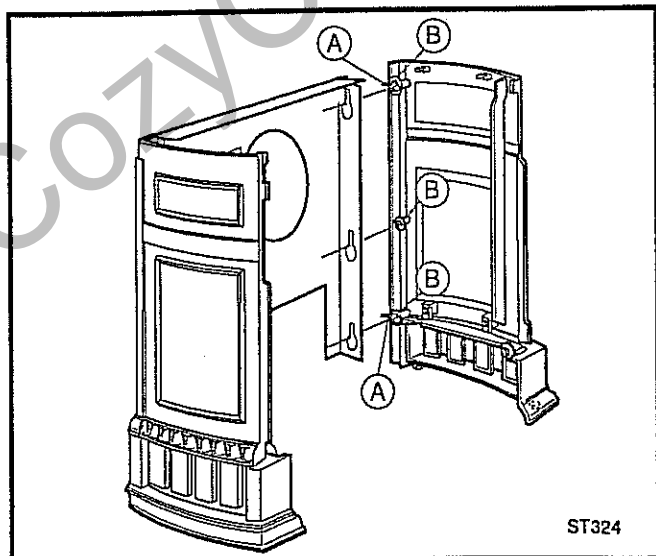
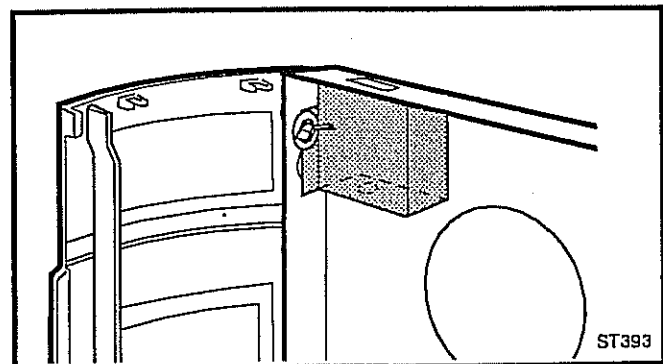

Fig. 28 Fasten the right side to the rear shroud.
Fig. 30 Fasten the heat shield switch to the rear shroud.
2. Repeat Step 1 to attach the Right Side Plate to the Rear Shroud. (Fig. 28) Align the two side plates to be perpendicular to the Rear Shroud as in Figure 30.